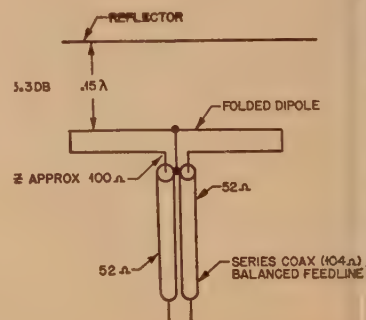

Fig 4.
The next curves are the 2-element beam gain curves. The gain is read on the left and the spacing on the bottom. For a driven element and a director the maximum gain, 5.8 DB is at a spacing of about .115 wavelengths or $(492/14.2) (.115) (2) = 7.98$ feet on 20 meters. For a reflector the maximum gain of 5.3 db is realized at a spacing of .15 wavelengths or $(492/14.2) (.15) (2) = 10.4$ feet. Gonset uses 10 feet spacing on their Bantam Beam. The impedance curves will give a Z of about 15 ohms for the director. If a folded dipole is used as a driven element the Z will be about $4 \times 15 = 60$ ohms. If a 3-wire or conductor dipole is used the Z will be about $9 \times 15 = 135$ ohms. The Z using a reflector at a spacing of .15 will be about 25 ohms. If a folded dipole is used the Z will be about 100 ohms. This would provide a good match for series 52 ohms coax (104 ohm). The line would be balanced, high Z, low ignition pickup and low loss due to lower currents. See also fig. 4.